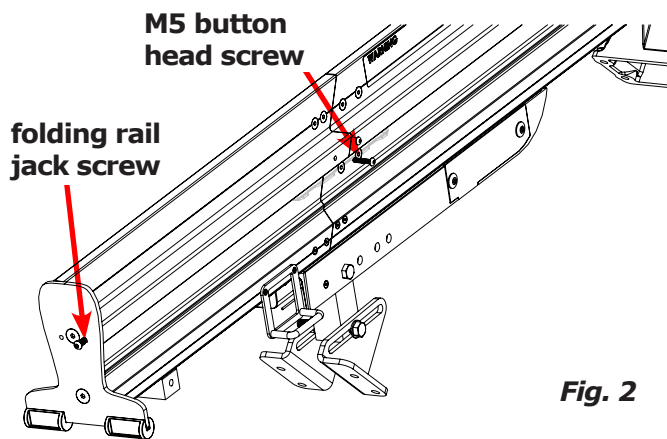

Fig. 2
3. Loosen M5 button head screw securing folding rail rack (Fig. 2).
**not tripped Fig. 2**